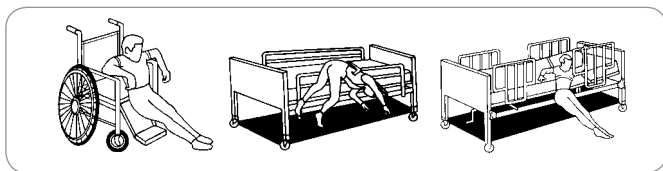

Fig. 36
**⚠ WARNING** If straps cross over sensor pad and patient moves, pressure from straps may prevent alarm from activating. If patient falls out of bed or chair and is suspended in the restraint, serious injury or death may occur from chest compression or suffocation (Fig. 36).